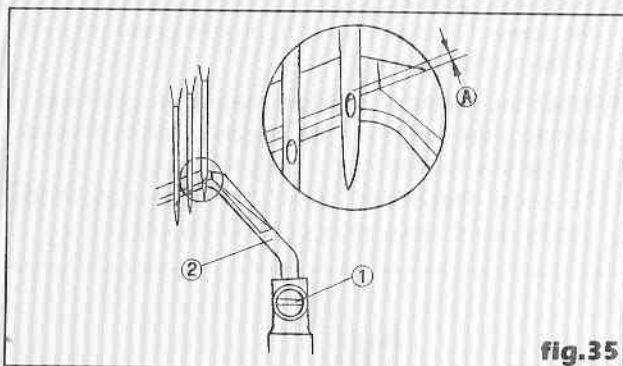

fig.35
2) When the needle is in Below the top of its lowest position, the line (A) of the needle guard is located 1/3 be low the top of the right needle eye. To adjust, loosen the screw (2) first, then move the needle guard upwards or downwards. (fig 35)